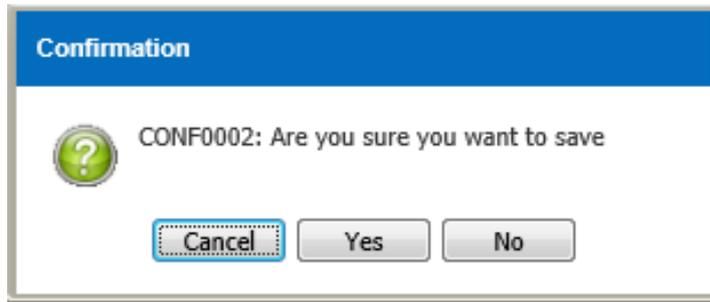

Figure 3.2.1-3 Confirmation Message
- Confirmation message as shown in Figure 3.2.1-3 will be displayed after user save the record
- Record will save when user click on the  button as shown in Figure 3.2.1-4